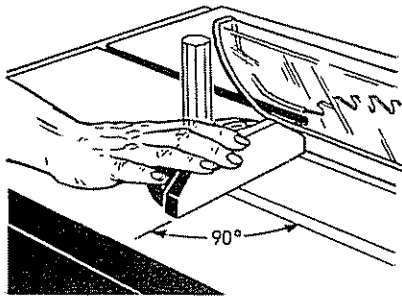

Figure 64
- Square crosscutting is done with the miter gauge set at "0" (at a right angle to the slide and groove). (See figure 64.) The splitter need not be removed, but it is not needed for this operation.